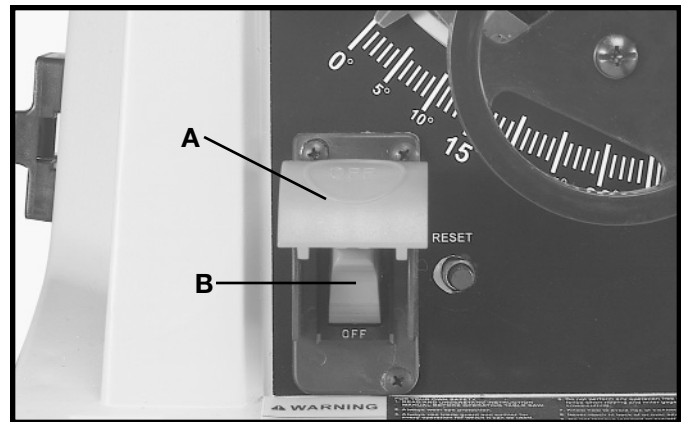

Fig. 36
1. The on/off switch is located underneath the switch shield (A) Fig. 36. To turn the saw **“ON”**, move switch trigger (B) up to the **“ON”** position.